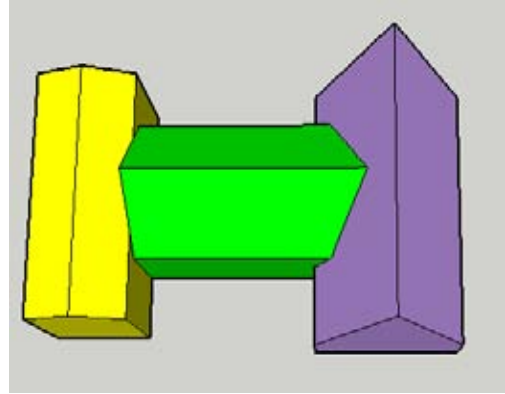

Figure 5-57
7. Add the same edges on the other side of the green roof and erase extra lines. The intersection of the green and purple roofs is shown in Figure 5-57.